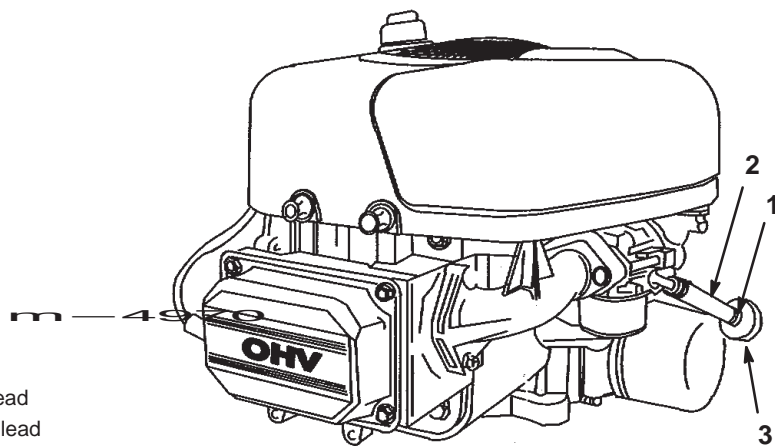

Figure 38
4. Loosen the hose clamp at the fuel filter and slide it up the fuel line away from the fuel filter (Fig. 38).
5. Pull the fuel line off of the fuel filter (Fig. 38).
7. Install the fuel line onto the fuel filter. Slide the hose clamp close to the fuel filter to secure the fuel line (Fig. 38).
4. Squeeze the ends of the hose clamps together and slide them away from the filter (Fig. 38).
6. Install a new filter and move the hose clamps close to the filter (Fig. 38).